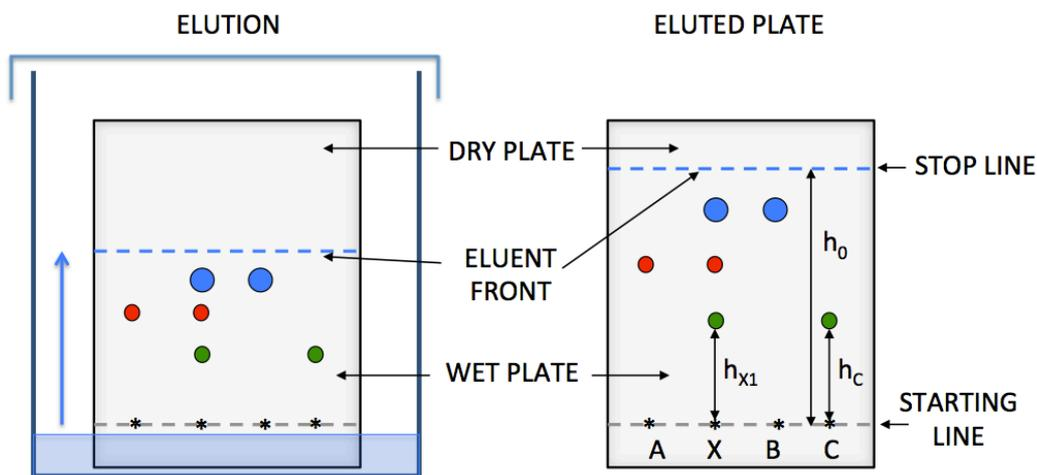

Figure 5. Separation of substances on chromatographic plate
4. As the eluent flows, it carries the analytes with it. The velocities at which analytes move are different and characteristic to the analyte. The velocity of substance depends on their affinity towards stationary phase. Figuratively speaking: substances which "like" to be in liquid phase move faster and the substances which prefer stationary phase move slower. This way the analytes move different distances from the starting line (Figure 5).